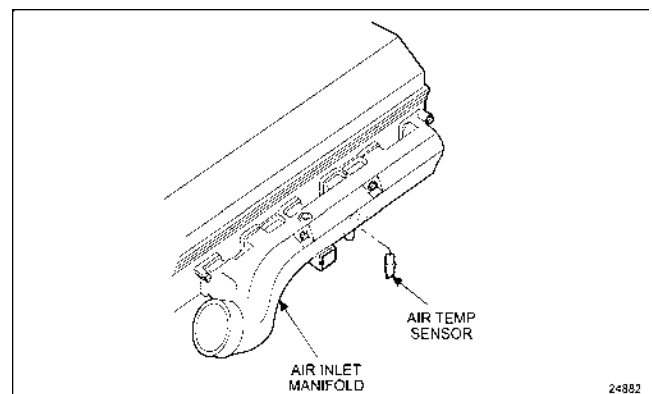

Figure 2 Air Temperature Sensor Location
- Using a drill press and a 9/16" drill, drill and tap a 3/8" pipe port for the Air Temperature Sensor (ATS), between #3 and #4 intake air ports in manifold. See Figure 2.